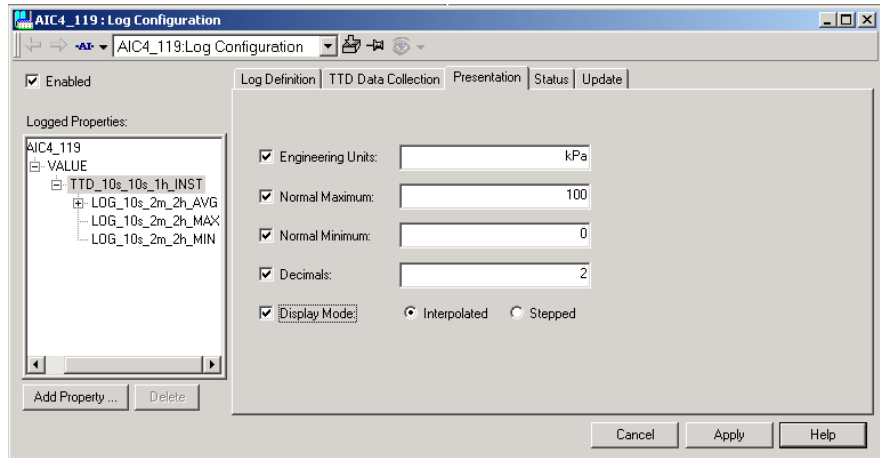

Figure 52. Log Configuration - presentation
- The preview area now looks like Figure 52.